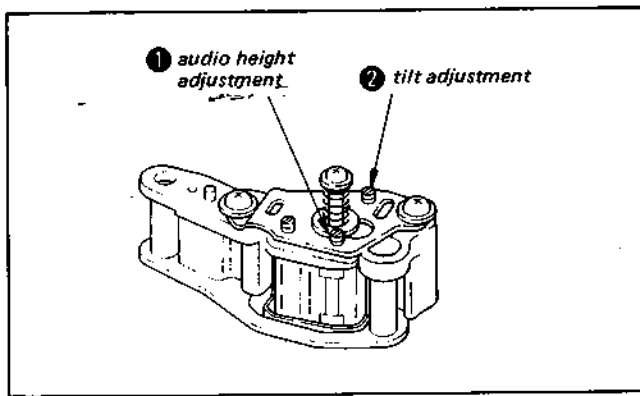

Fig. 4-19.
- 3) Mark the positions of the audio height adjustment screw and lateral adjustment screw in Fig. 4-19 and the azimuth adjustment screw in Fig. 4-15.